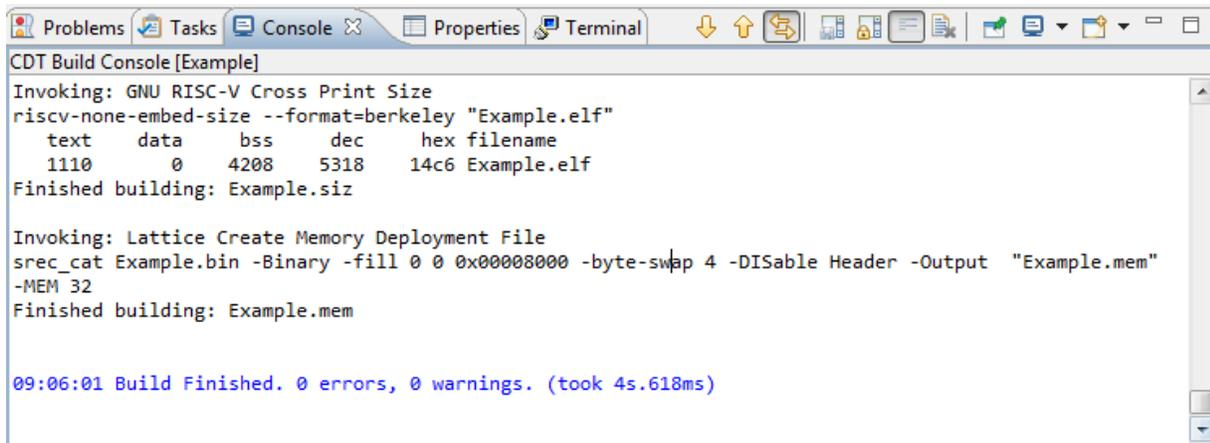

Figure 3.15. Build Result of C Project
4. The results of the build command are displayed in the **Console** view (Figure 3.15).